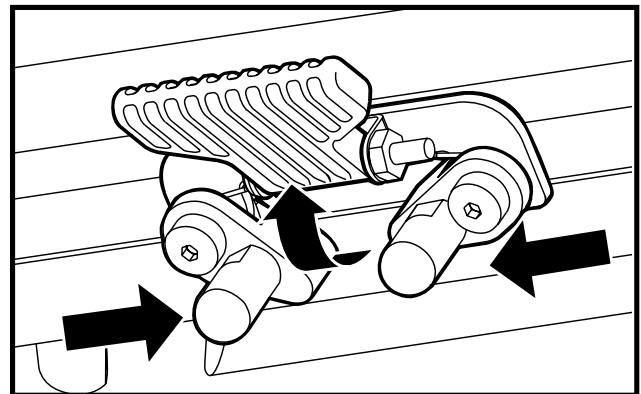

Figure 13. Seat Latch Safety (Disengaged)
3. Flip up the seat latch safety. See figure 13.